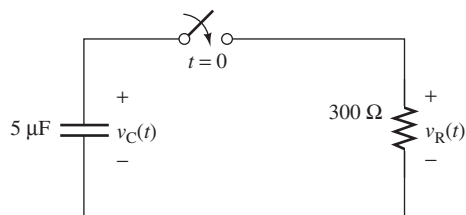

FIGURE P5.5 Circuit for Problem 5.5.
- 5.5 (A)* Find an expression for v_R in Figure P5.5, given that $v_C(0) = 5$ V. (The switch closes at $t = 0$.)